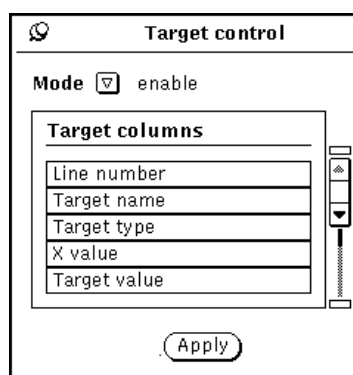

Figure 6-21: Target Control Popup - Enable Mode
1. Choose **Control...** from the **View** pulldown menu and the **Target control** popup will appear (Figure 6-21).